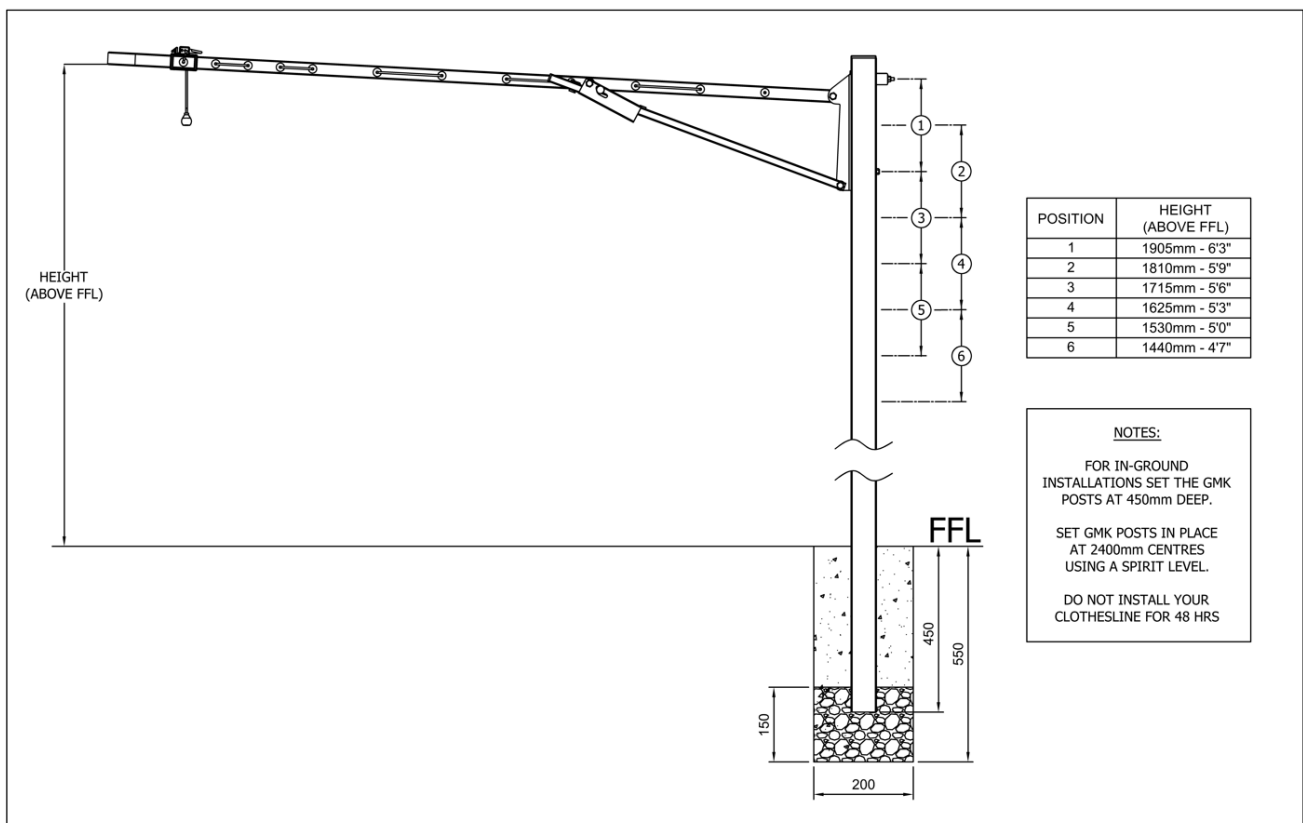

Fig 8. GMK in-ground installation.
3. GMK has multiple height settings. Pick the one that best suits the end user, (50mm above head height is recommended). (See Figs 8 and 9 for recommended installation heights).
- Install the GMK as per the below image (Fig 8) at 2,400mm centres.